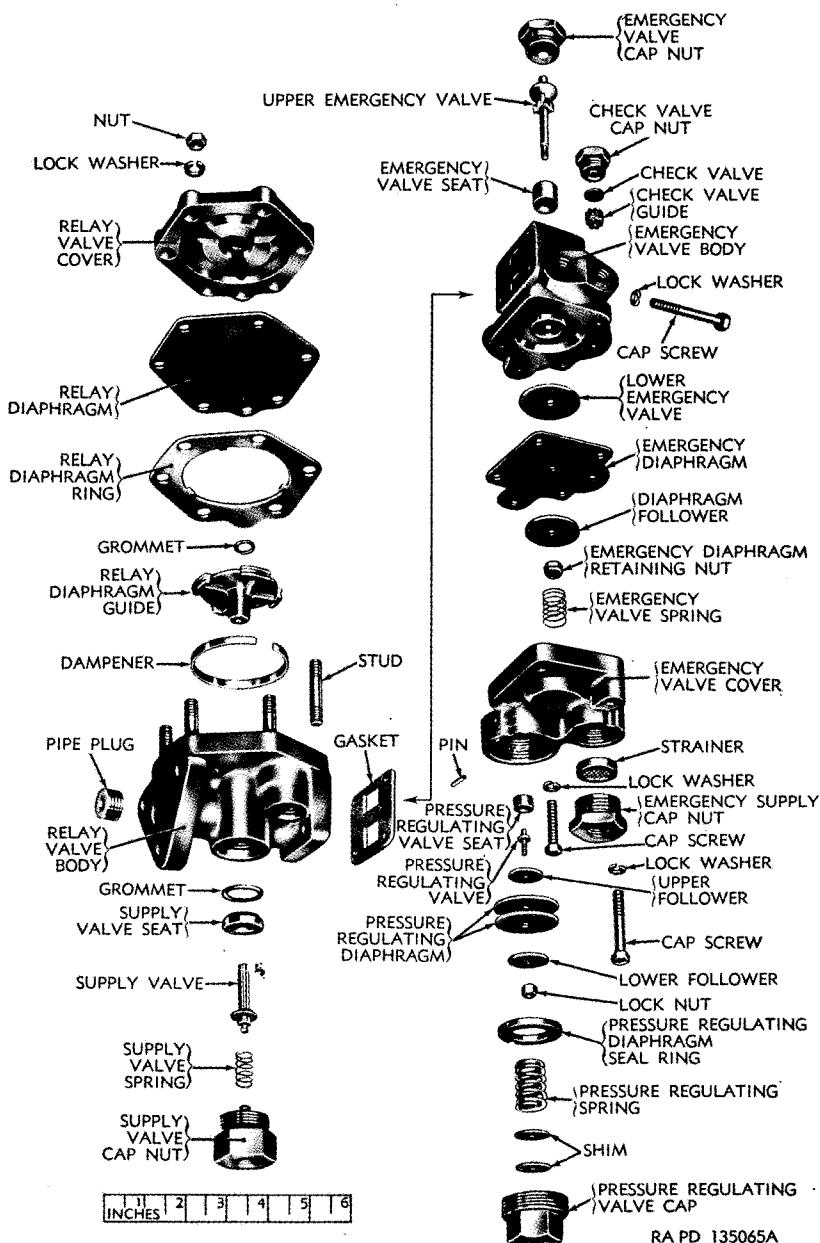

Figure 143. Type RE-1C relay-emergency valve—exploded view.
- (2) *Type RE-1C.* Proceed as in paragraph 97 and refer to figure 143. Note that gasket and relay valve body are secured to emergency valve body. Continue with procedure in b(2) below.
(2) *Type RE-1C valve (fig. 143).*
- (2) *Type RE-1C valve.* Proceed as described in paragraph 99 and refer to figure 143. Note that gasket and relay valve body are secured to emergency valve body.
(g) Using a new gasket, position relay valve and emergency valve and install and tighten four cap screws and lock washers attaching relay valve to emergency valve (fig. 143).